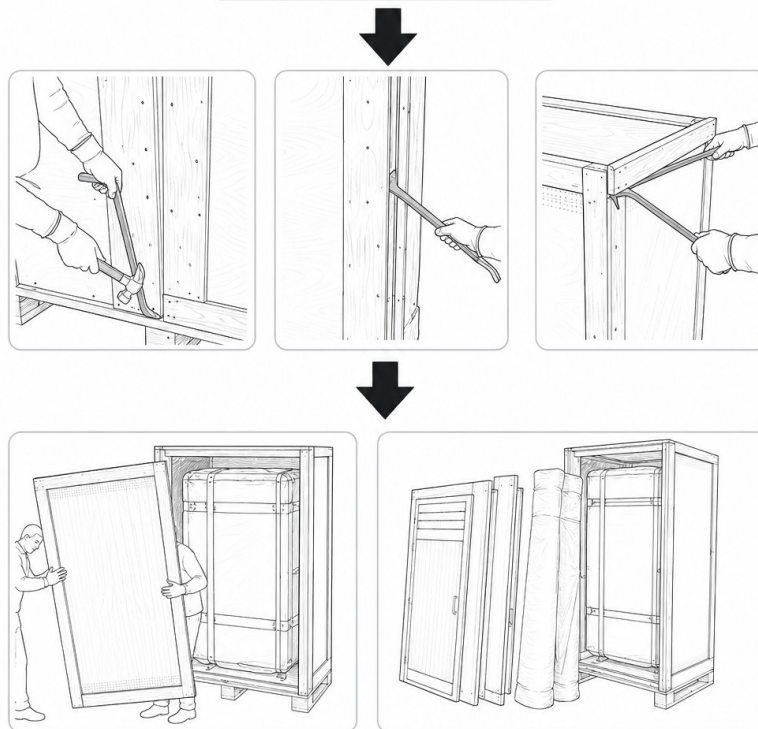

Figure 3. Uncrating: the crate front is pried open at the bottom, the sides, and then the top, and the contents are held upright while the front is removed.
- Using the crowbar and hammer, pry the crate front open: bottom first, then sides, then top (**Figure 3**).